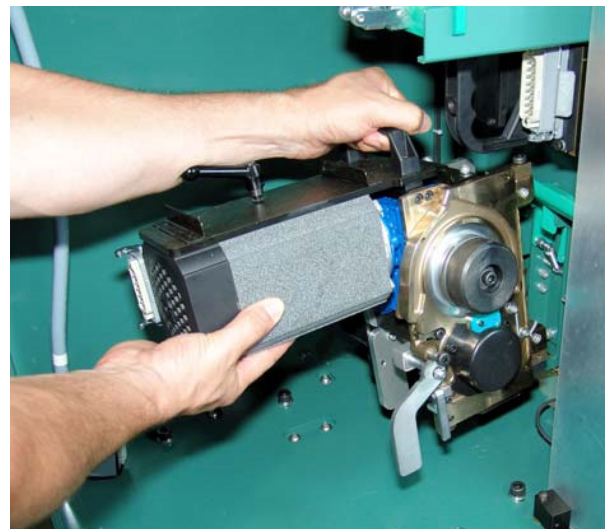

Figure 4-9: Tension Module
3. Using both hands, lift the tension module at an angle off the lower mounting bracket and remove it from the machine (**Figure 4-9**). Reverse the above instructions for module replacement.